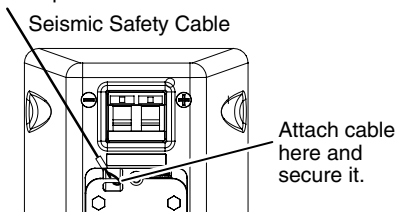

Figure 5 — Re-attach the seismic safety cable
9. Reattach the seismic cable to the speaker (see figure 5). Insert the speaker wires (see figure 3).